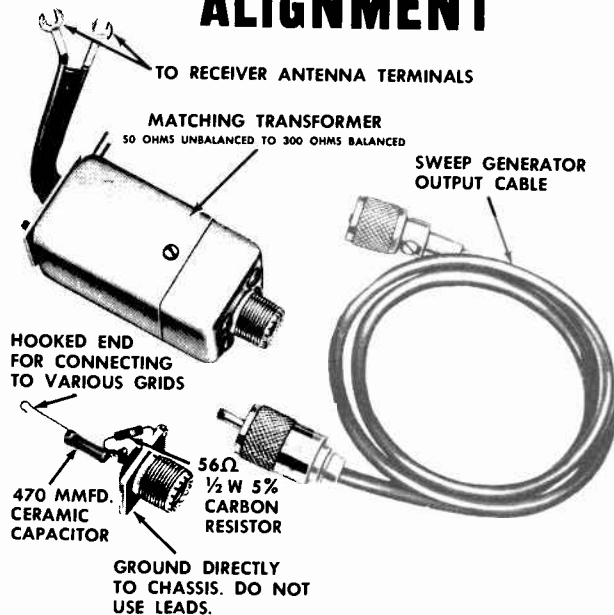
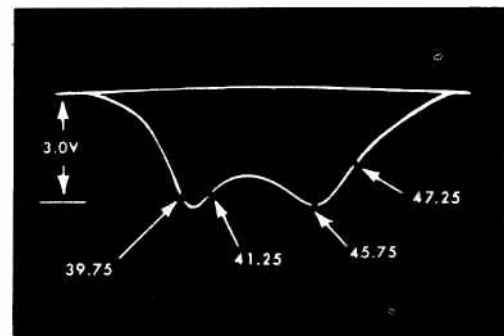

Fig. 4 IF-RF Alignment Fixtures
Fig. 5 4th IF Response
3. Feed the sweep generator through the special terminating network shown in Fig. 4 to point "G" (Pin 1 of the 3rd IF). Adjust generator to obtain a response similar to Fig. 5 with a detector output of 3 volts peak to peak. Do not exceed this level during any of the adjustments.
4. Set the marker generator to 45.75 Mc and alternately adjust the top and bottom cores of the 4th IF for maximum gain and symmetry with the 45.75 Mc marker positioned as shown in Fig. 5. The two peaks must be equal in height and the high frequency
3. Feed the sweep generator through the special terminating network as shown in Fig. 4 to point "G" (Pin 1 of the 3rd IF). Adjust generator to obtain a response similar to Fig. 12. Do not exceed the 3 volt peak to peak detector output during any of the following adjustments.